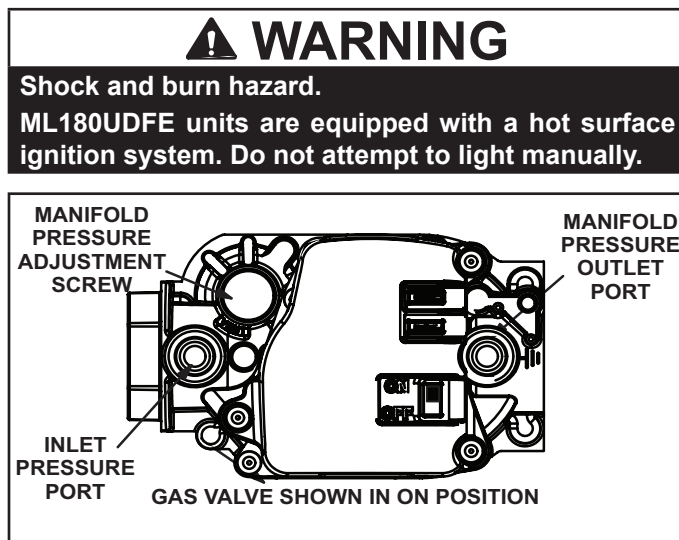

FIGURE 19
- 6 - Move gas valve switch to OFF position. Do not force. See FIGURE 19.
- 8 - Move gas valve switch to ON position. Do not force. See FIGURE 19.